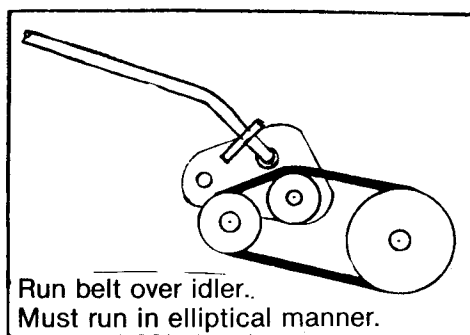

FIGURE 4
5. Belt brake (ell rod) should ride on top of the belt. (See Fig. 4)